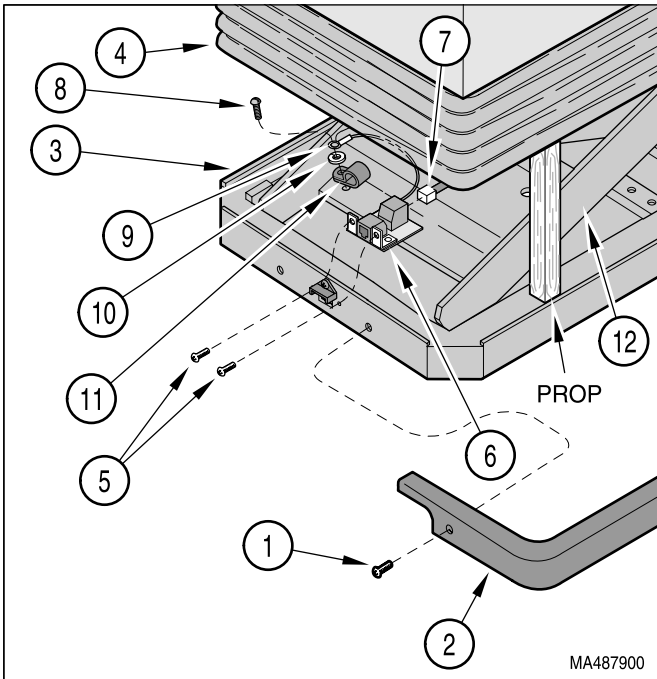

Figure 4-35. Foot Control Inlet Board Removal / Installation
- (2) Unplug table power cord from wall outlet.
- (3) Remove four screws (1, Figure 4-35) and two bellows retainer trim (2) from lower base weldment (3).
- (4) Raise bellows (4) and support in the up position with a prop.
- (5) Remove two screws (5); then remove foot control inlet board (6) from lower base weldment (3) by gently pulling modular cord (7).
- (6) Remove screw (8), ground wire (9), lockwasher (10) and cable clamp (11) from scissor base (12).
- (7) Disconnect modular cord (7) from foot control inlet board (6) and remove inlet board from lower base weldment (3).